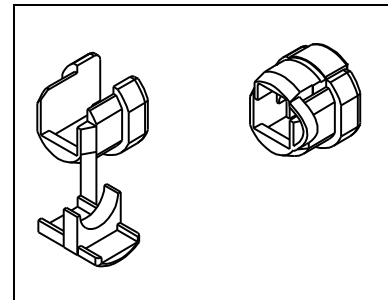
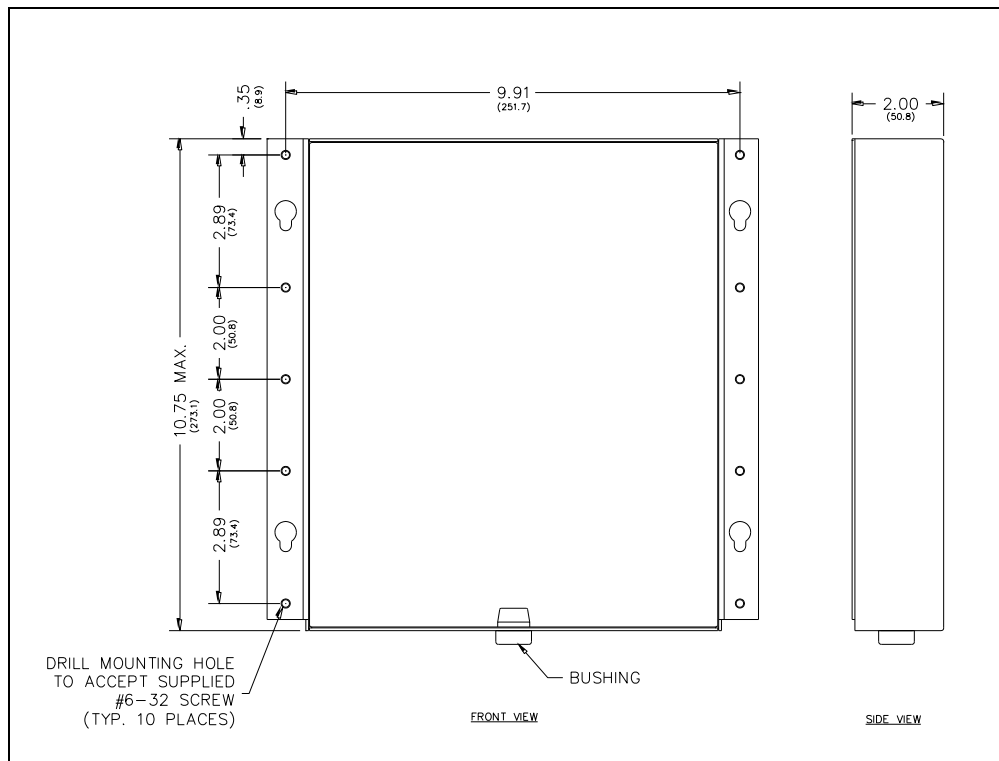
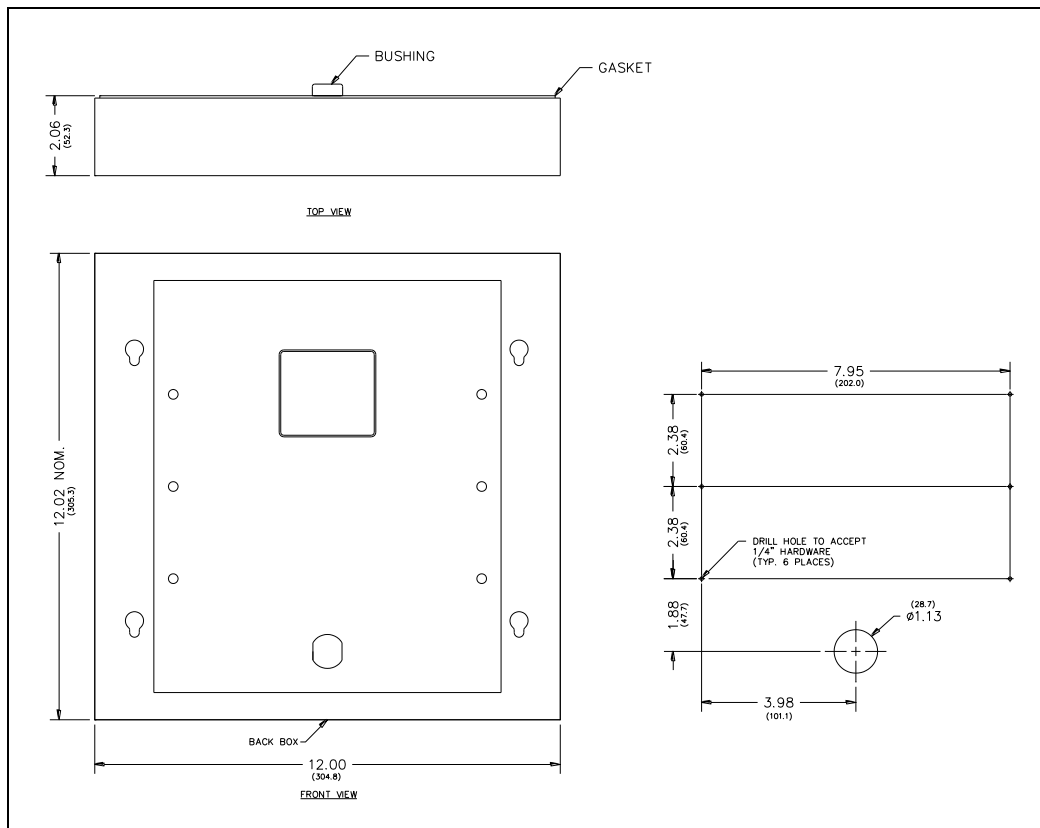

Figure 4. Bushing
Figure 7. Back Box for Model 295-712F
Figure 8. Mounting the Model 295-712W
2. Snap the bushing closed and insert it into the double **D** hole in the bottom of the back bracket. See Figure 4 and Figure 7.
6. *If using local power or optional inputs or outputs:* route the cables through the **D** hole in the bottom of the back bracket (see Figure 7).
7. Place the back bracket in the wall. Locate the mounting holes (see Figure 7).
2. *If using Power-over-Ethernet, with no optional inputs or outputs:* place the bushing around the Ethernet cable 5 inches from the end of the cable. Snap the bushing closed and insert it into the double **D** hole in the back box (see Figure 4 and Figure 8).
3. *If using local power or optional inputs or outputs:* route the cables through the **D** hole in the back of the back box (see Figure 4 and Figure 8).